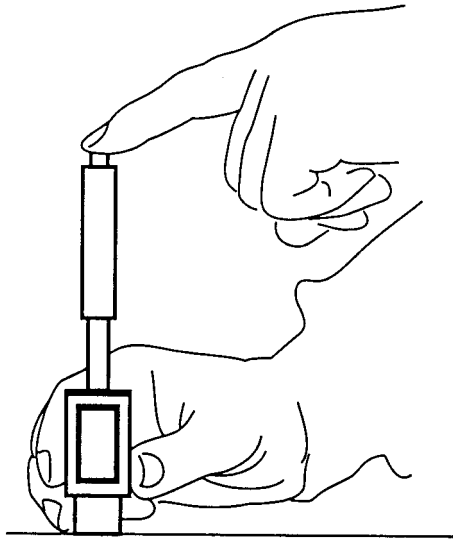

Figure 5.7
3. Keeping the tester steady, press the Tester Release Button.(See figure 5.7)